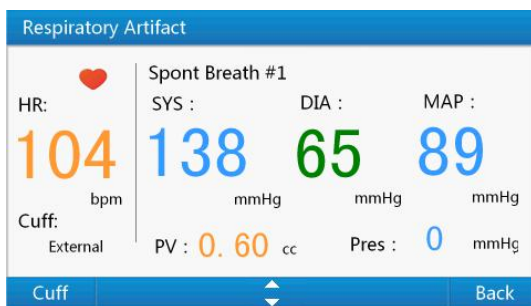

Figure 19 Respiratory artifact BP simulation interface
- 1) Select **"Respiratory Artifact"** in **"BP Simulation Menu"** or use number key **"7"** to the respiratory artifact BP simulation interface shown as Figure 19.